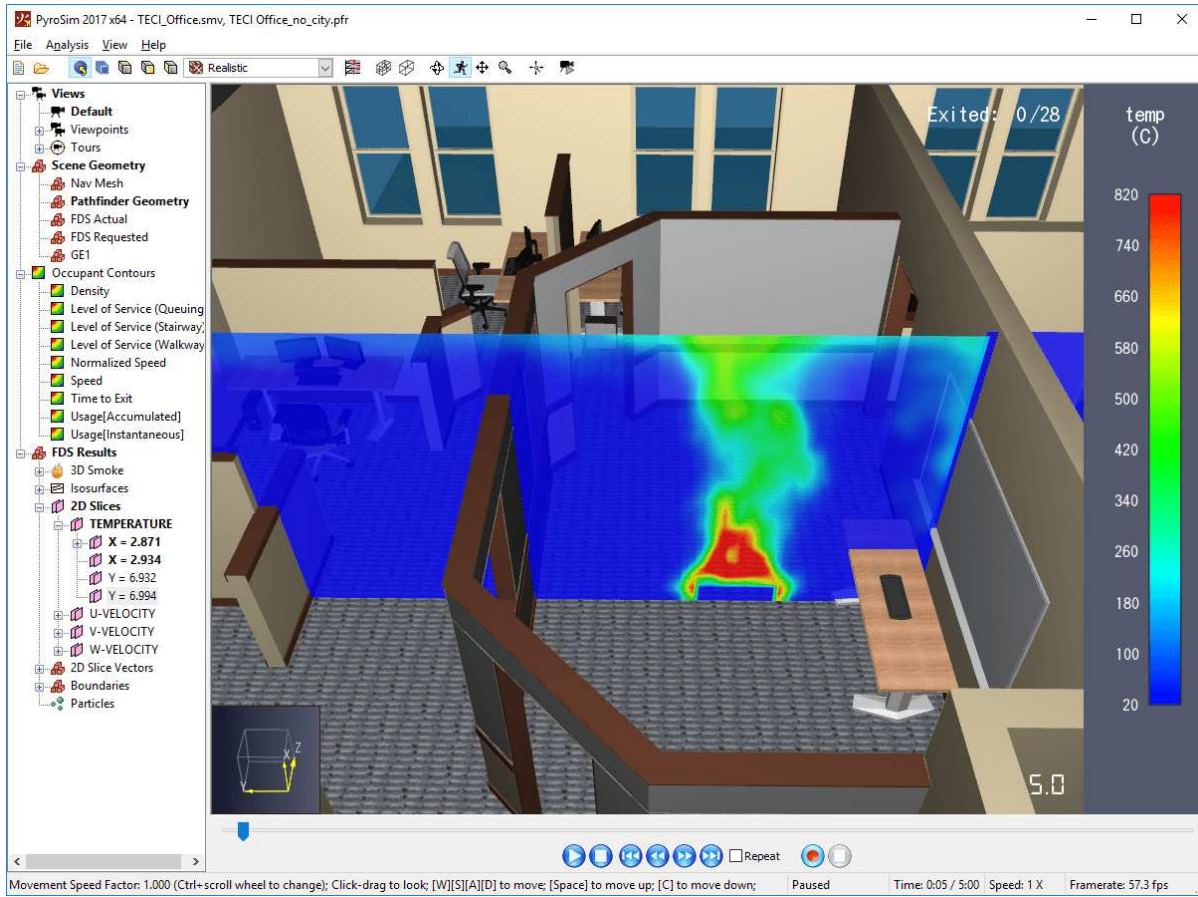

Figure 58. Results colorbar
- If necessary, a colorbar is added to the right side of the main window as shown in Figure 58. The colorbar can be edited as described in Section 6.3.
Nearly all FDS and Pathfinder results data are colored with a colormap (exceptions include 3D Smoke, Particles viewed with the **Default** coloring, and some occupant coloring options). A colormap provides a way to map data values to a color that can be displayed on the screen. When a colormap is in use, it will be shown as a colorbar on the right side of the 3D View as shown in Figure 58. If both FDS Results and Pathfinder occupant contours are displayed at the same time, there may be multiple colorbars displayed at once.
The colorbar shows the colormap as well as which data values are mapped to the colors. At the top, it also shows an abbreviation of the quantity and the quantity’s unit in parentheses. In Figure 58, the label "temp" corresponds with the quantity, **TEMPERATURE**, and the unit is **C** for degrees Celsius.